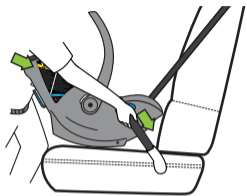

Figure 73
- Use your body to push and wiggle the Carrier into the vehicle seat back and pull down on the lap portion of inflatable vehicle belt to tighten as shown in **Figure 73**.